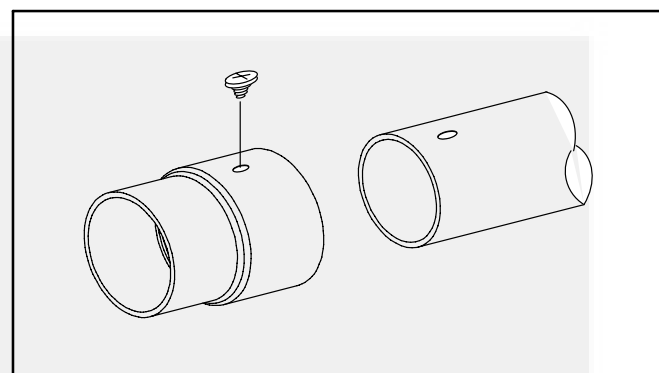

FIGURE 7-11. SPARK ARRESTING SCREEN
11. The spark arresting screen in the kit fits snugly on the end of 1-3/8 O. D. pipe. Push the spark arresting screen on to the end of the tailpipe all the way to the shoulder and secure it with a stainless steel sheetmetal screw through the hole provided (Figure 7-11).